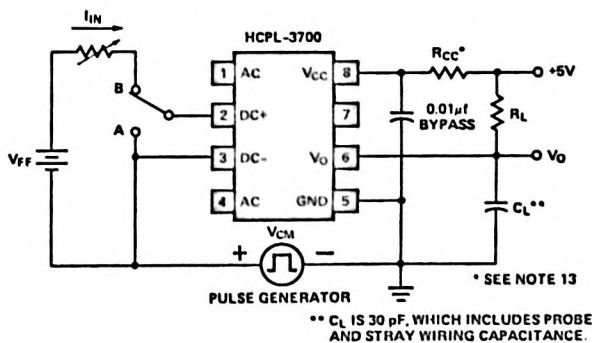

Figure 10. Test Circuit for Common Mode Transient Immunity and Typical Waveforms.
12. Common mode transient immunity in Logic High level is the maximum tolerable (positive) dV_{CM}/dt on the leading edge of the common mode pulse, V_{CM} , to insure that the output will remain in a Logic High state (i.e., $V_O > 2.0\text{V}$). Common mode transient immunity in Logic Low level is the maximum tolerable (negative) dV_{CM}/dt on the trailing edge of the common mode pulse signal, V_{CM} , to insure that the output will remain in a Logic Low state (i.e., $V_O < 0.8\text{V}$). See Figure 10.